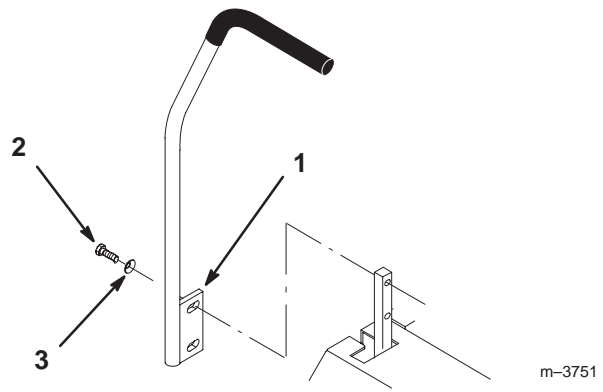

Figure 4
- Remove the (4) 3/8-16 x 1” (26 mm) bolts and (4) 3/8” spring washers which attach the motion control levers to the control arm shafts for shipping (Fig. 4).
- Place the levers (with the mounting plate towards the rear) on the outside of the control arm shaft and secure with (4) 3/8-16 x 1” (26 mm) bolts and (4) 3/8” spring washers (Fig. 4).
- Align the front/rear position of the levers, with each other, in the neutral position. Loosen hardware and adjust by sliding/tilting the lever(s) forward or backward until properly aligned (Fig. 4).